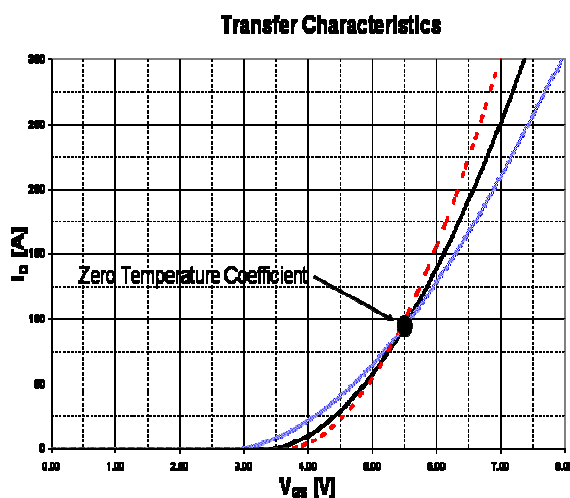

Figure 4. Typical MOSFET transfer characteristic curves over temperature.
A MOSFET that has a higher transconductance will have a higher current handling capability at lower gate source voltages and thus a higher zero temperature coefficient point (see Figure 4) on the device transfer curve [2]. While the higher zero temperature coefficient can often be neglected when the applied gate voltage far
Figure 4 above, shows a MOSFET transfer curves where drain current, I_D , is a function of gate voltage, V_{GS} , at fixed junction temperatures. The "zero temperature coefficient" is the point where the temperature lines intersect. Another way to depict the "zero temperature coefficient" is to take the $\Delta I_D / \Delta T = \alpha$, where α is defined as the drain current temperature coefficient[2].
2. MOSFET transconductance gain (gfs): The higher the device's gain, gfs , the higher the current intersection point on the transfer curve (see Figure 4)